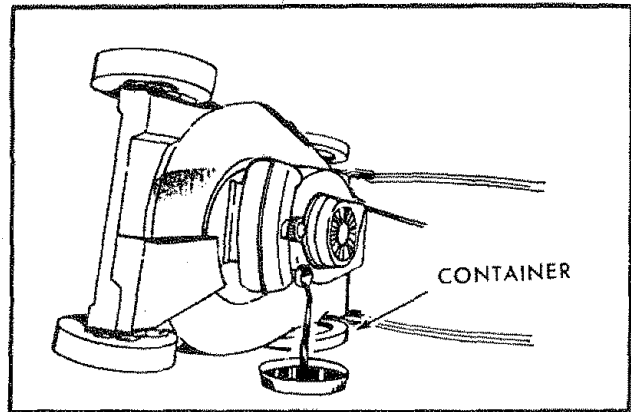

FIG. 27
2. Tip mower on its side as shown in Fig. 27 and drain oil into suitable container. Rock mower back and forth to remove any oil trapped inside of engine.